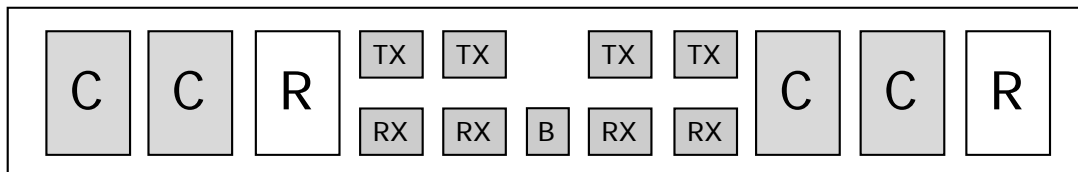

Figure 1-4 • AX SuperCluster
Two C-cells, a single R-cell, and two Transmit (TX) and two Receive (RX) routing buffers form a Cluster, while two Clusters comprise a SuperCluster (Figure 1-4 on page 1-3). Each SuperCluster also contains an independent Buffer (B) module, which supports buffer insertion on high-fanout